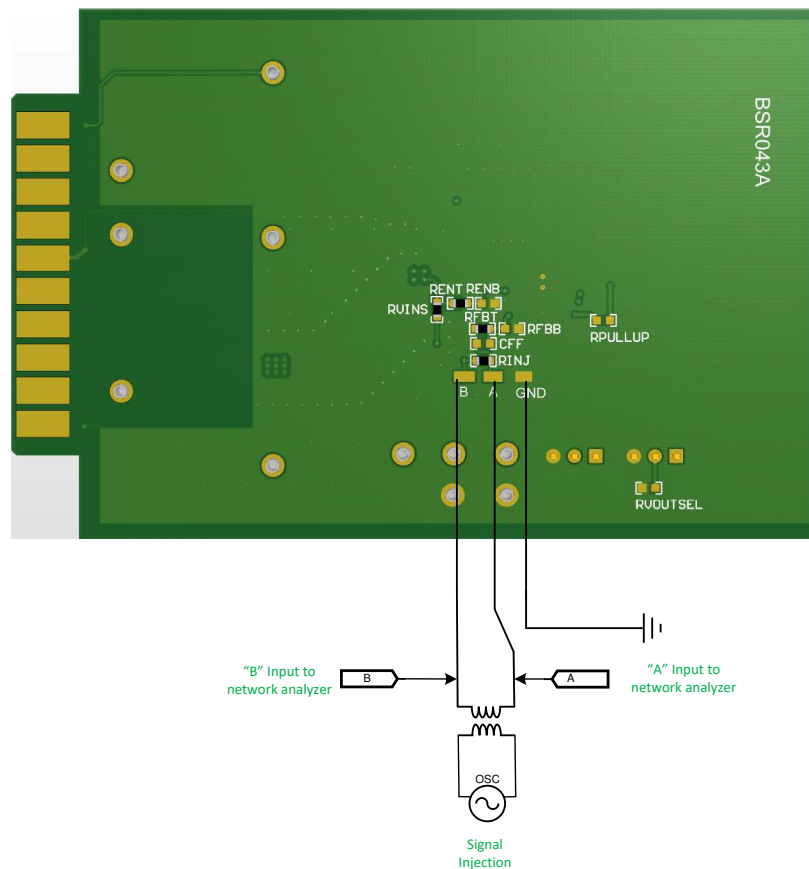

Figure 4. FRA Setup
- **OPEN PADS** - Connection for frequency response analyzer (on bottom of board). See Figure 4.